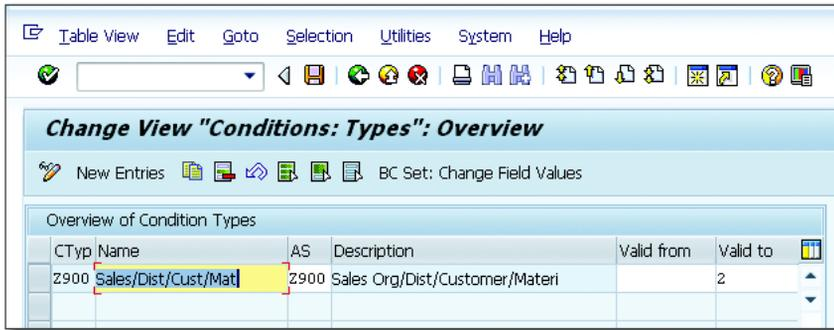

Figure 4.49 Creating the Condition Type in SAP ERP
- Maintain the condition types by going to SPRO • INTEGRATION WITH OTHER SAP COMPONENTS • CUSTOMER RELATIONSHIP MANAGEMENT • BASIC FUNCTIONS • CAMPAIGN DETERMINATION • MAINTAIN CONDITION TYPES. Create the condition type, and assign the access sequence to the condition type, as shown in Figure 4.49.